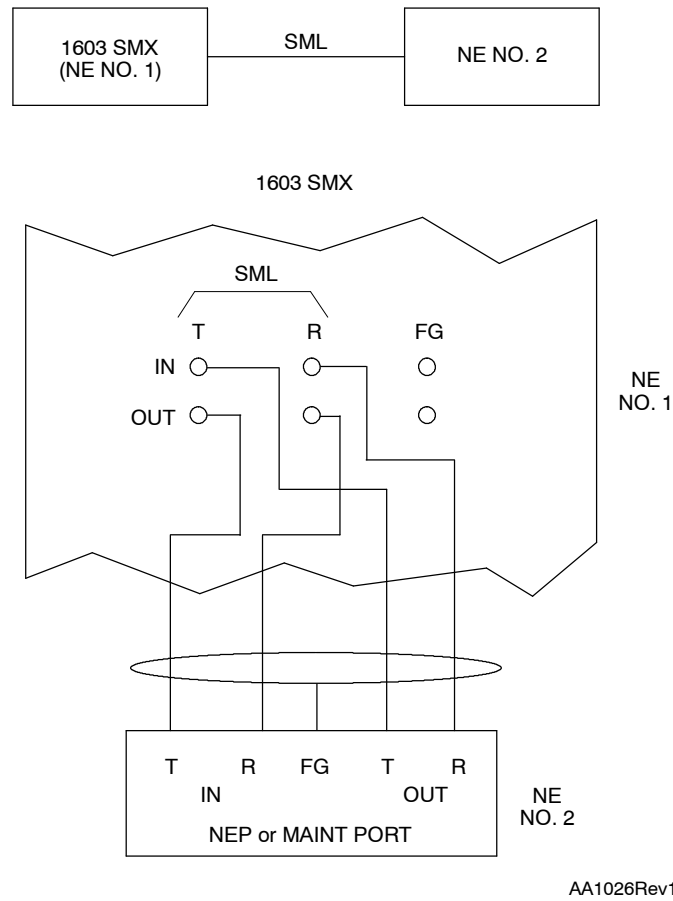

Figure 1. SML Wiring Interface
- 6 Verify SML wire-wrap connections on backplane (see Figure 1).
- 10 Correct the connection per Figure 1.
- 17** Verify wire-wrap connections on backplane and correct if necessary (see Figure 1).
- 19** Correct the connection per Figure 1.
- 23** Verify wiring at NEP SML wire-wrap connections on backplane (per Figure 1).
- 25** Correct the connection per Figure 1.